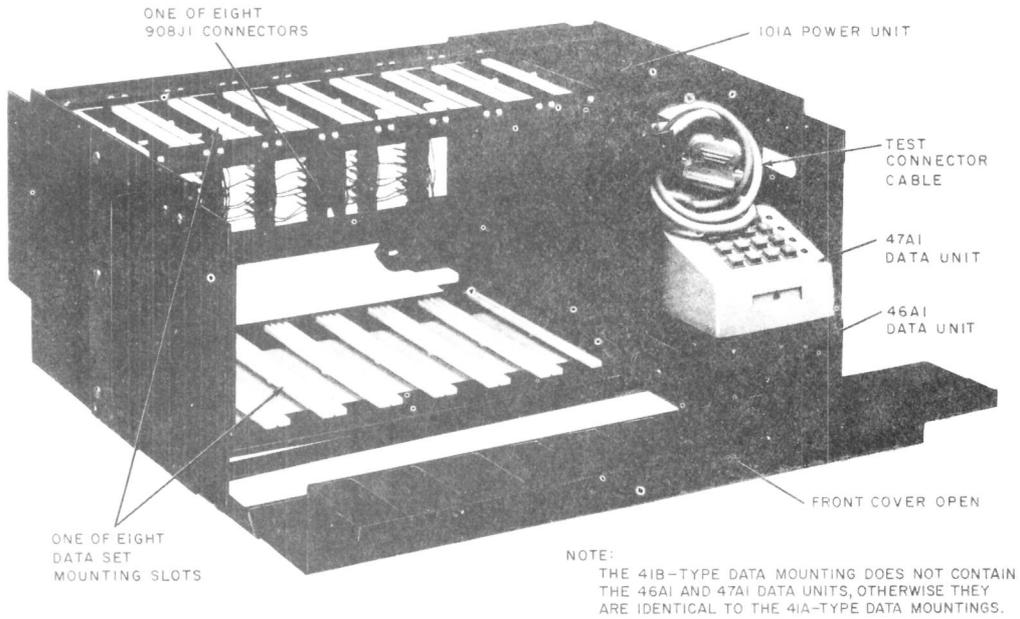

Fig. 4—41A-Type Data Mounting With Front Cover Open
2.05 The 41A data mounting (Fig. 4) contains a test unit and is approximately 23 inches wide, 8.67 inches high, and 16.5 inches deep. It mounts on a 23-inch rack and weighs approximately 42 pounds. The 41A1 and 41A2 data mountings are supplied with a KS-14532-L16 power cord. The 41B1 and 41B2 data mountings have the same